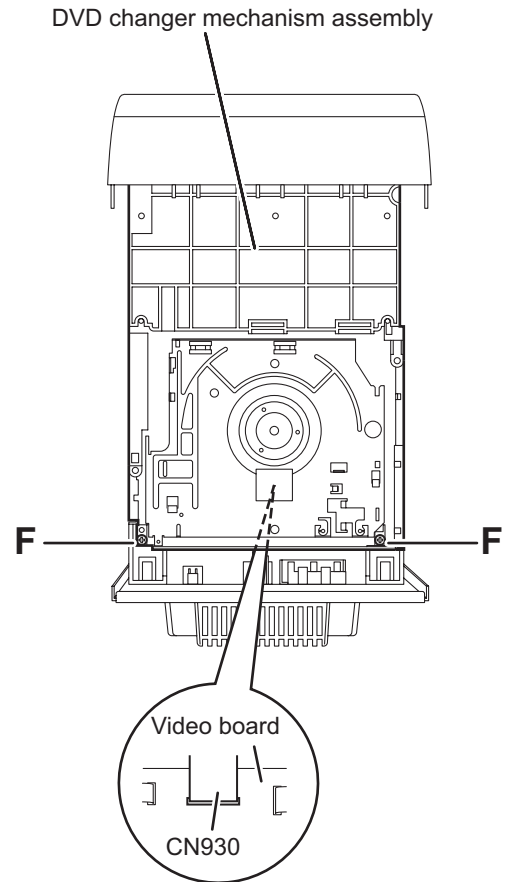

Fig.8
- (3) From the top side of the main body, remove the two screws **F** attaching the DVD changer mechanism assembly on the mecha chassis. (See Fig.8)
- (4) Take out the DVD changer mechanism assembly from the main body and disconnect the card wire from the connector CN930 on the video board. (See Fig.8)